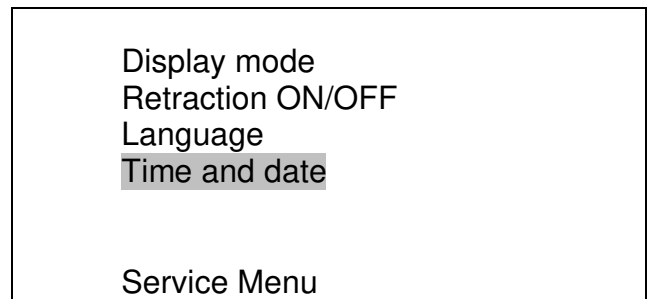

Fig. 21
- Press the menu button (fig. 20.1). The sub-menu (fig. 21) appears on the display.